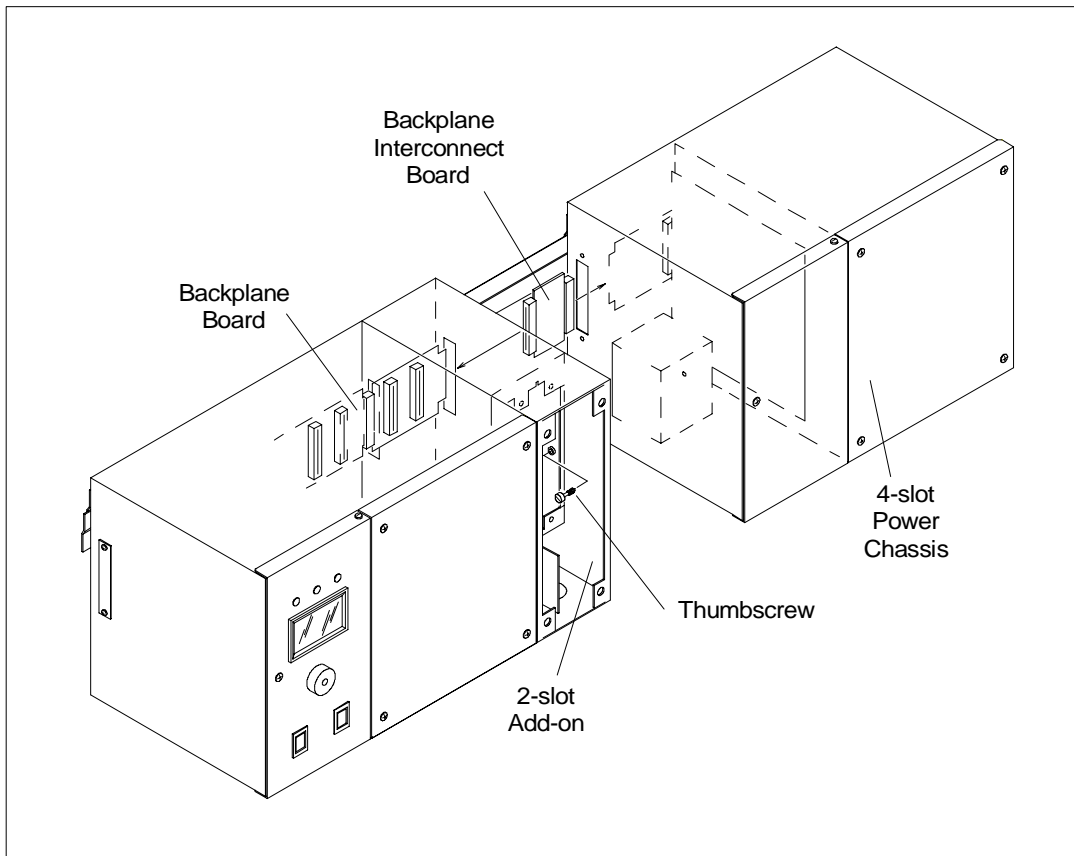

Figure 5 Connecting a 4-slot power chassis using the Backplane interconnect board
Step 3: Remove the corresponding system interlink cover from the left hand side of the 4-slot expansion chassis. Open the left front cover and install the provided backplane interconnect board to the left end of the 4-slot power chassis backplane circuit board. See *figure 5*.
Step 6: Slide the 4-slot power chassis along the interlocking rail until both ends of the backplane connector board mate. See *figure 5*.